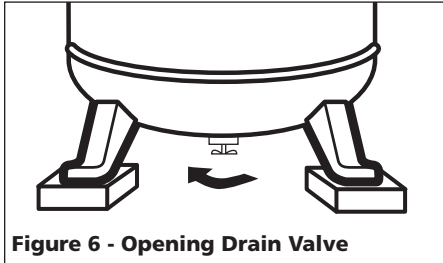

Figure 6 - Opening Drain Valve
1. Open drain valve completely and run the compressor for 60 minutes (See Figure 6).
Drain Tank (See Figure 6)	●